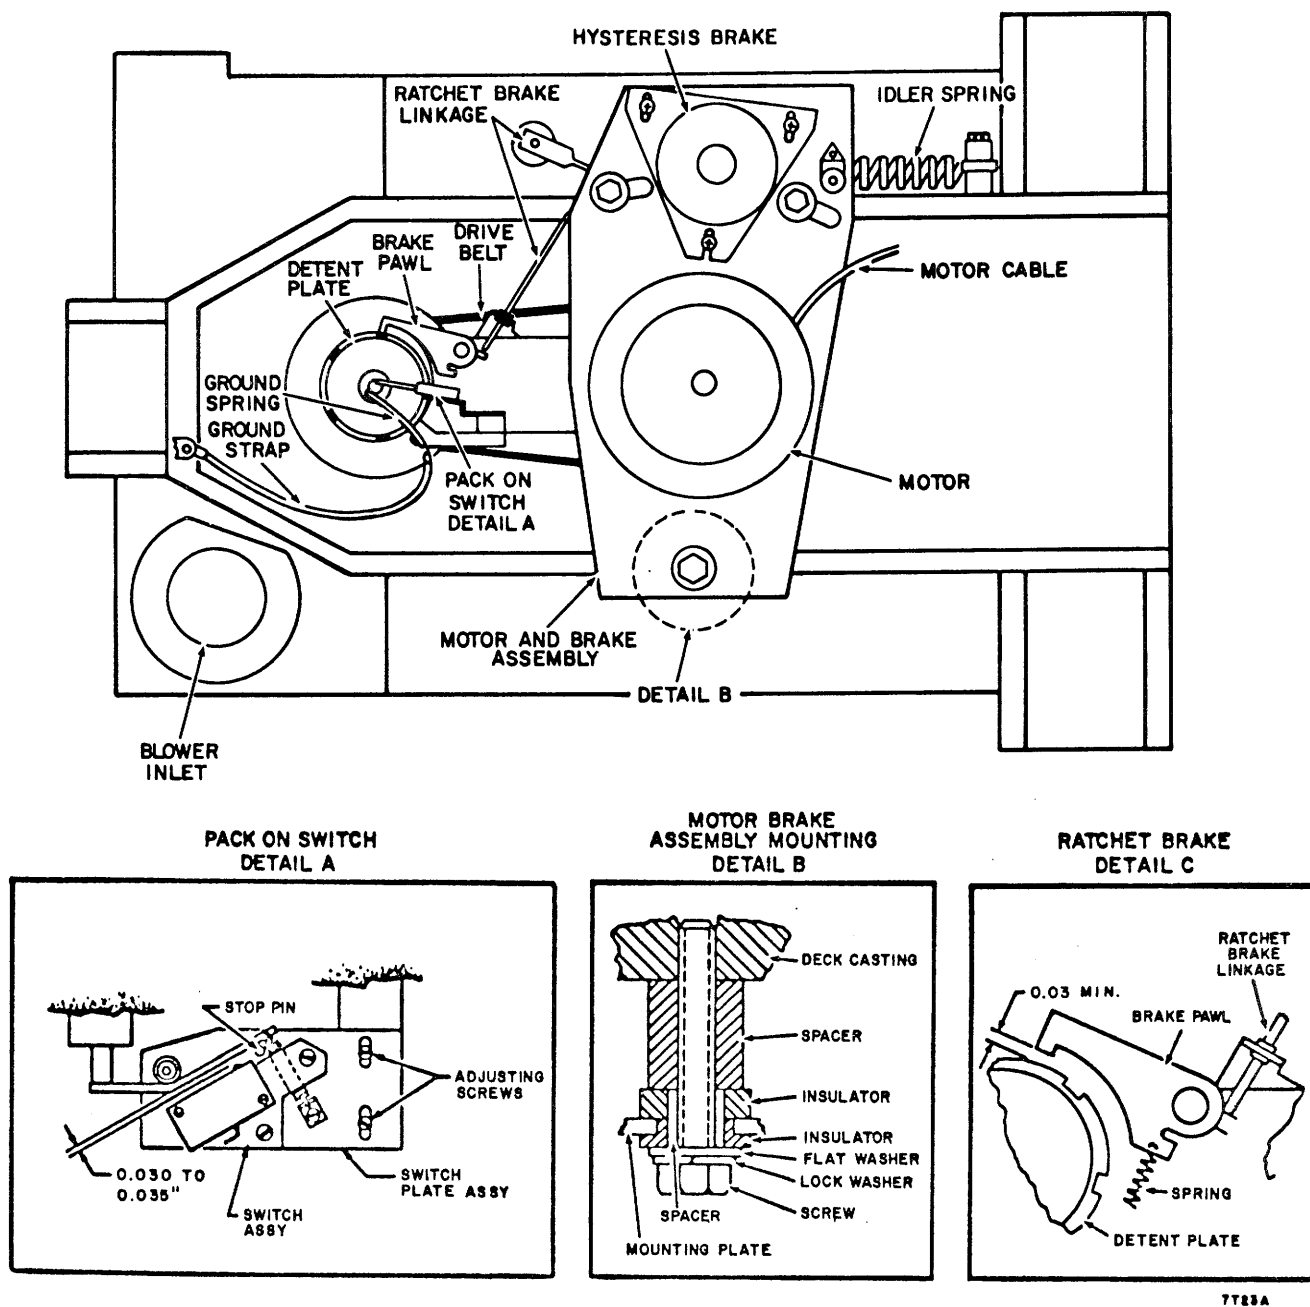

Figure 6-11. Main Deck Underside
DRIVE BELT REMOVAL AND REPLACEMENT (Figure 6-11)
11. Position ratchet brake linkage assembly on sector sensor shaft so brake pawl locks detent plate with front cover open 70° , and unlocks with cover open 45° . Tighten in position. With cover closed, check for clearance shown in Figure 6-11, detail C.
DRIVE MOTOR REMOVAL AND REPLACEMENT (Figure 6-11)
12. Align motor cable exit point to motor mounting plate according to Figure 6-11. Secure replacement motor to mounting plate.
13. Install V-belt pulley on motor shaft establishing required dimension (Figure 6-11) between bottom of pulley and top of motor mounting plate. Secure pulley to shaft with setscrew(s) using one drop of Loctite, Grade C, on setscrew(s) threads. Torque setscrew(s) to 75 ± 5 in-lbs.
19. Raise motor and brake assembly toward underside of deck. Secure assembly to deck with three screws (Figure 6-11, detail B).
21. Connect idler spring to post on motor mounting plate (Figure 6-11).